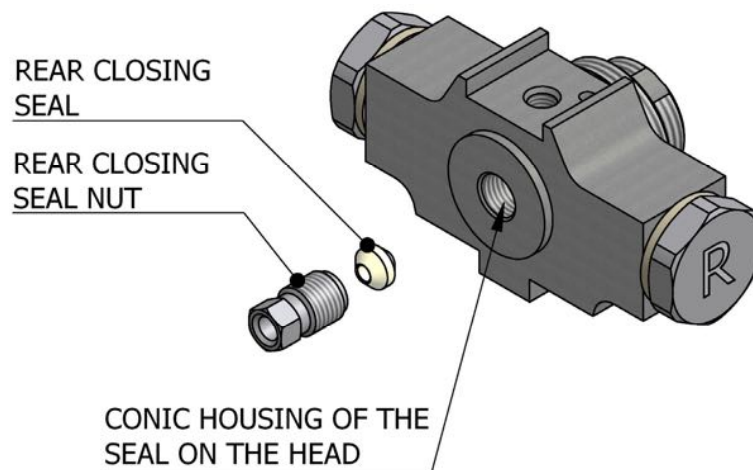

Figure. 16
6. Loosen the rear seal nut completely by turning it anti-clockwise (see **Figure. 16**).
7. Remove the rear closing seal and clean it with gun-cleaning solvent or replace it if it is very worn (see **Figure. 16**).
18. Completely unscrew the nut of the rear closing seal by turning it clockwise (see **Figure. 16**, page 14).